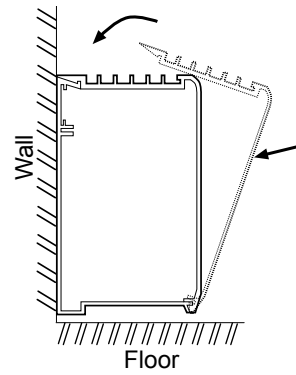

**Fig. 2**
1. Run branch circuit of proper voltage and wire size to location of left or right junction box as indicated on heater wiring diagram. Basic heaters are prewired and can be connected to branch circuit at either end. Heaters with controls are prewired for connection to branch circuit at one end only (refer to heater wiring diagram). However, heater can be wired from opposite end by running wires through heater wireway. See Fig. 2 for knockout locations.
3. Remove appropriate electrical knockouts from either junction box. See Fig. 2 for location of knockouts. If heater is to be
2. Refer to wiring diagram for power supply entry and remove appropriate electrical knockout (Fig. 2) from the heater in which power supply connections are to be made. The power supply may be brought into the end of one heater and the remaining heaters may be connected in parallel using the wireway. Use Table B to size the field installed wiring in the wireway or use Table C to determine the maximum length or heater run possible using the factory installed wire in the heater wireway. If units are to be pedestal mounted, consult pedestal kit installation instructions.